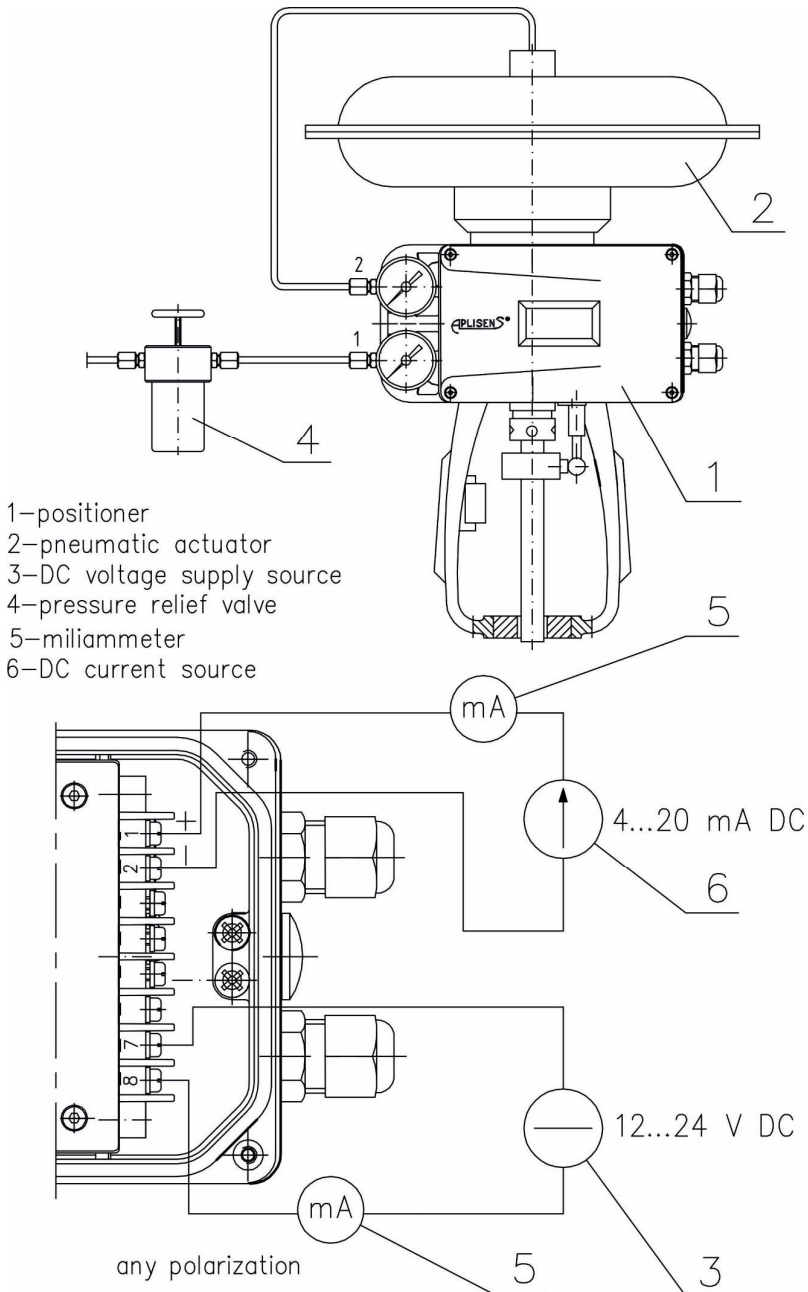

Fig. 17. Diagram of measuring circuit for starting APIS-1X0... positioner (single-acting membrane actuator)
- a) Positioner APIS-1X0-... installed on the actuator acc. to point 10.2...10.4. should be connected with the measuring system acc. to the diagram presented in Fig. 17.
- e) Current programming device item 6 – e.g.: Fig. 17 decrease input signal to 4 ± 0.01 mA DC; the following will appear on the display e.g.: